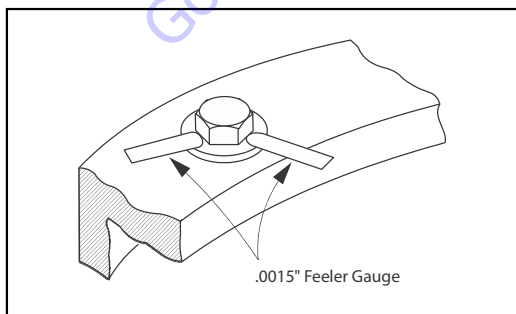

Figure 3-9. Swing Bearing Bolt Feeler Gauge Check
- b. At the positions indicated on (See Figure 3-9.), try and insert the 0.0015 inch (0.0381 mm) feeler gauge between the bolt head and hardened washer at the arrow indicated position.
- b. Try and insert the 0.0015" feeler gauge between bolt head and hardened washer at position shown in (See Figure 3-9.).
- d. Try and insert the 0.0015" feeler gauge between bolt head and hardened washer at position shown in (See Figure 3-9.).